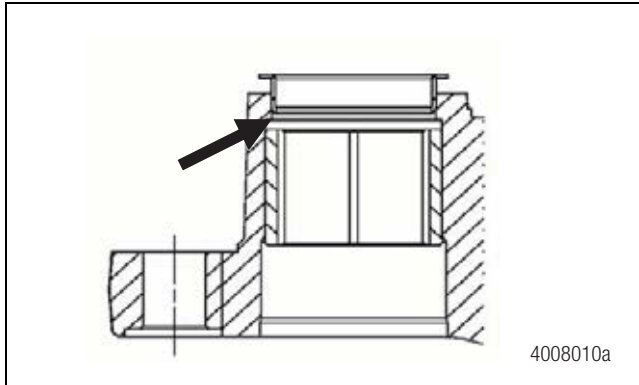

Figure 5.29
**NOTE:** Due to the presence of a lip shown in Figure 5.29, the oval bushings must be removed in the opposite direction of the round plastic bushings.